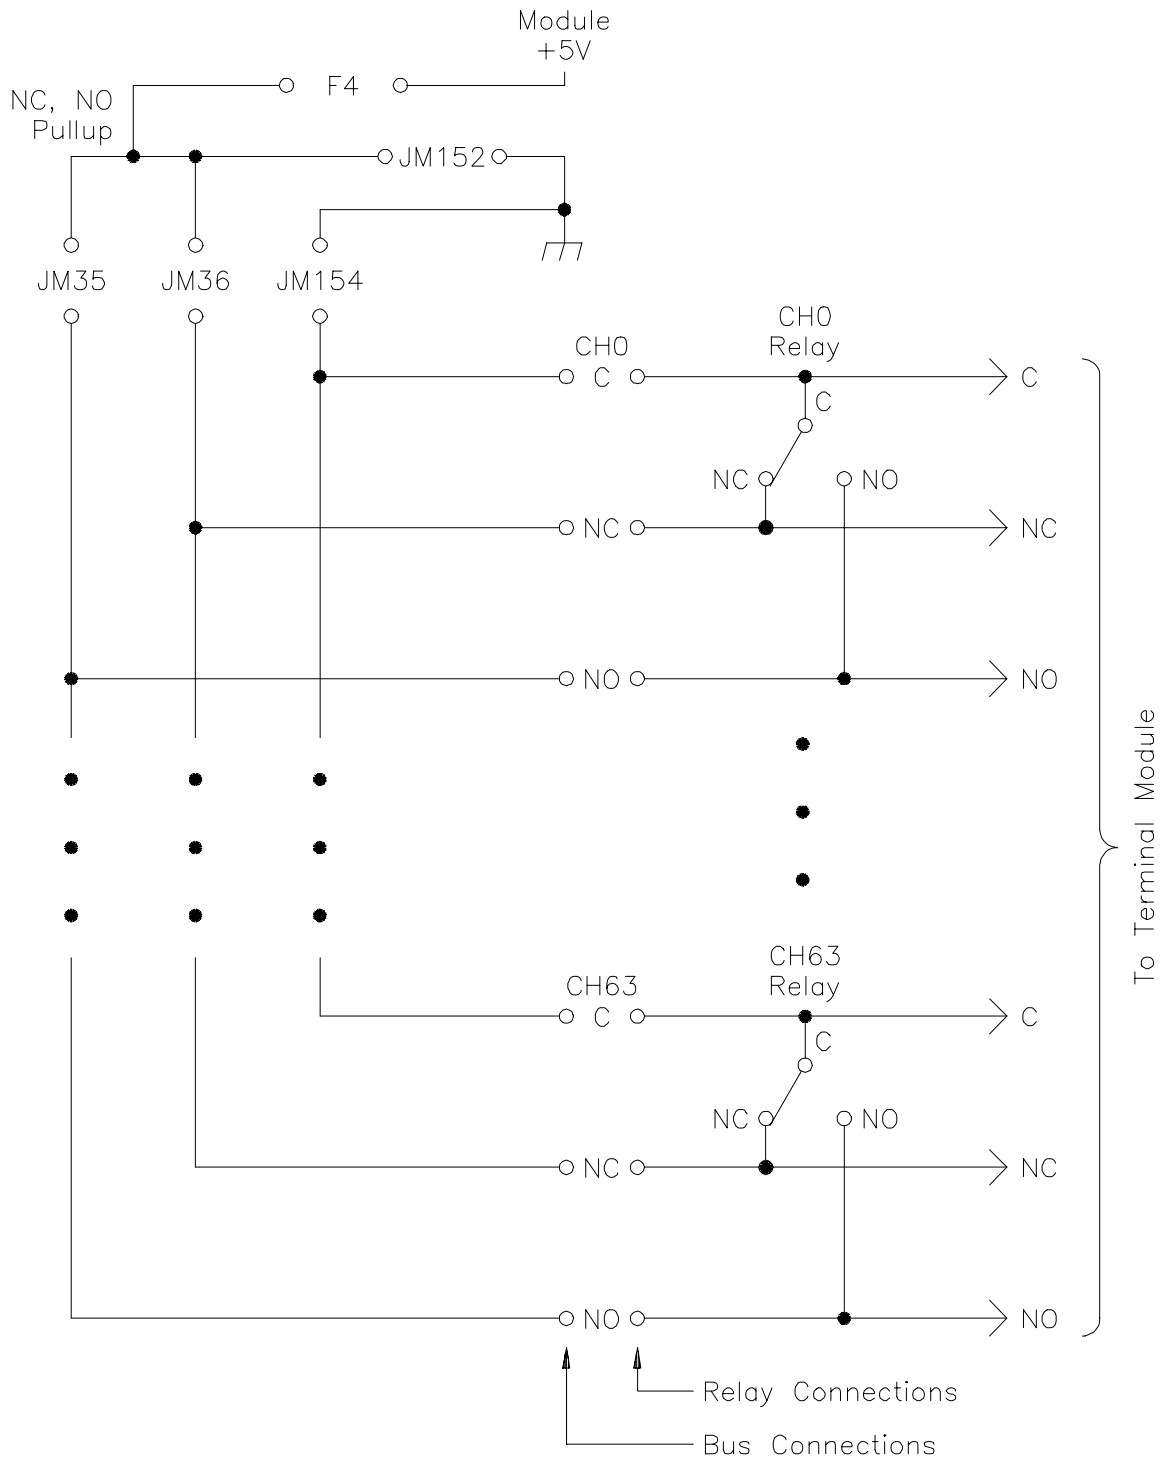
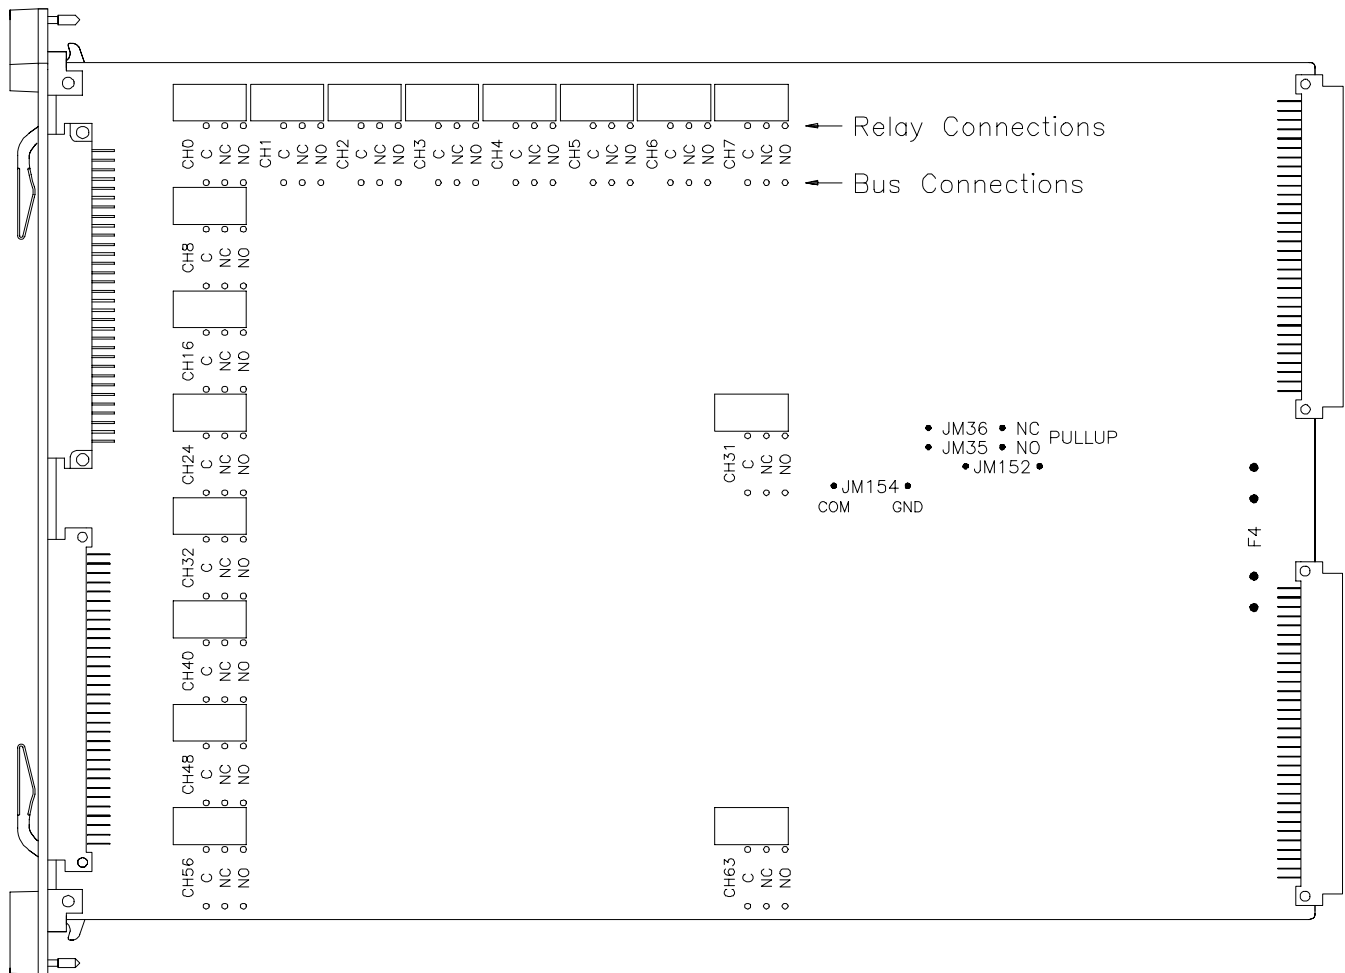

Figure 1-7. HP E1442A Internal Bus Structure
Figure 1-8. HP E1442A Internal Bus Component/Jumper Locations
The HP E1442A 64-Channel Form C Switch Module contains internal buses that you can connect any channel contact to. Figure 1-7 below shows channels 0 and 63 and the internal bus structure. There is a bus for the common, the normally closed (NC), and the normally open (NO) contacts. Other jumpers provide the means to connect the NC and NO contacts to a fused +5V pull-up voltage, or to be connected as pull-downs to ground. The common can be connected to ground. Figure 1-8 shows where you can find the component/jumper locations on the module.